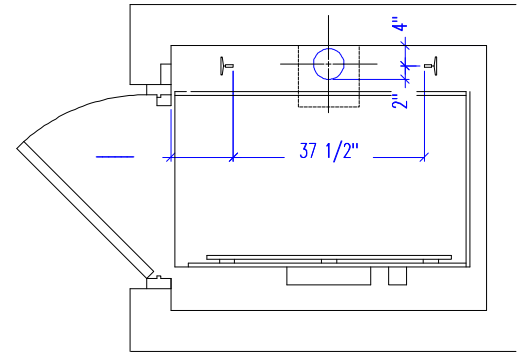

Figure 1
2. Check shop drawing for location of center of the face of the rails in relation to the hoistway entrance. Mark on pit floor. Fig. 1 shows typical dimensions, but CHECK SHOP DRAWING! At this point it is advisable to suspend a plumb line from the ceiling so that it hits the marks, and check that the distance from the line to the back wall is no less than what is indicated on the drawing, and no more than 1/4" greater than indicated.